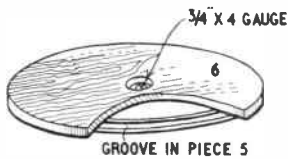
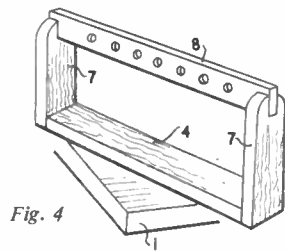

Fig. 3
Fig. 4
Fig. 3 shows how the platform of the instrument is made up by gluing the grooved wheel (5) under the $\frac{1}{4}$ in. thick wheel (6). The large hole in the centre of piece 6 is to allow the screw-head to go below the surface of the platform. Next complete the assembly, as seen in Fig. 4, by adding pieces 7 and 8.